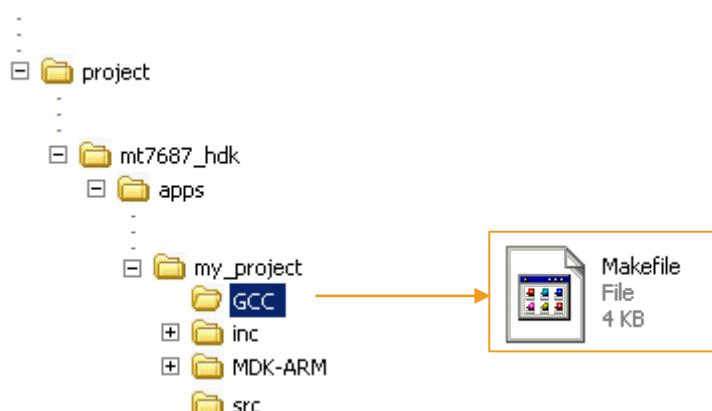

Figure 43. Modify the Makefile under the GCC folder of my_project
- 2) Modify the following settings defined in the <sdk_root>\project\mt7687_hd़k\apps\my_project\GCC\Makefile under the GCC folder (see Figure 43) my_project, as shown below: